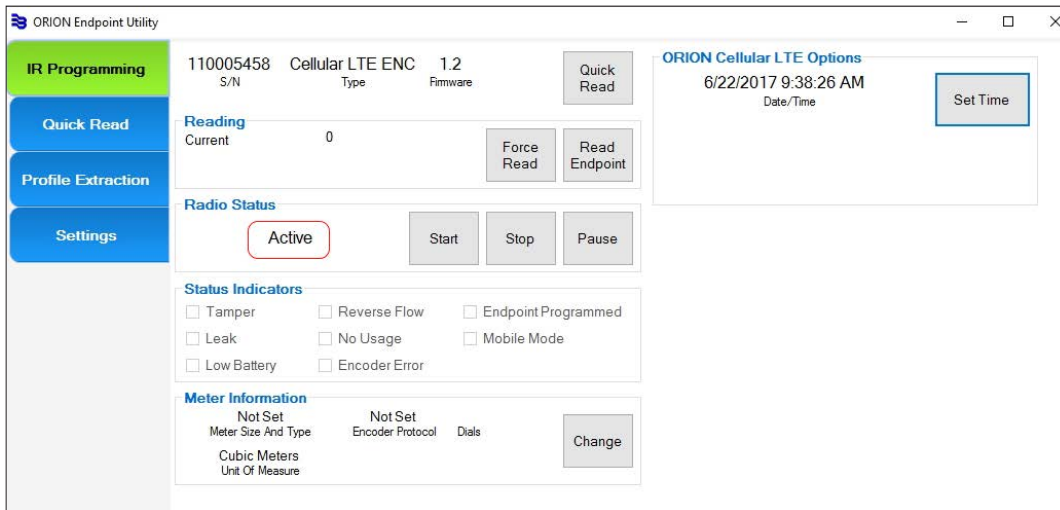

Figure 23: ORION Cellular LTE Endpoint - Active
4. Tap **Finish** to return to the IR programming screen. "Active" displays in the Radio Status field, indicating the endpoint radio transmission is started (*Figure 23*).